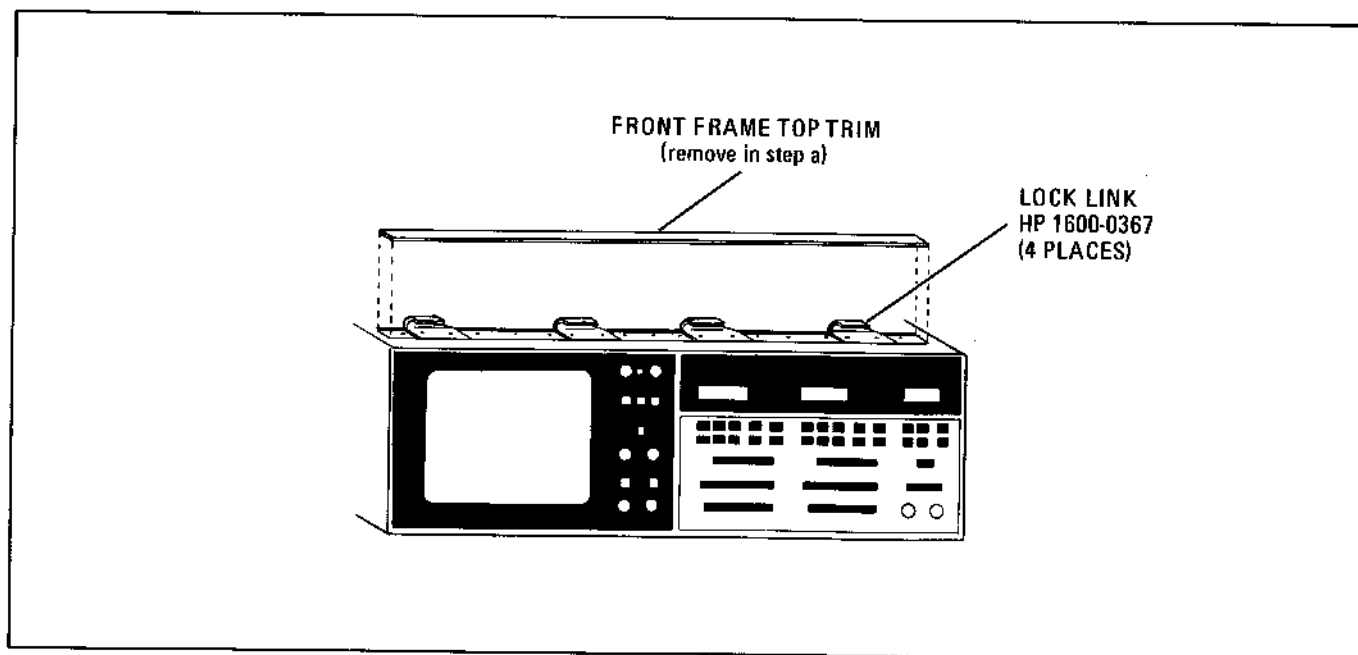

Figure 2-2. Installation of Lock Links on 8505A
- Remove the 8505A front frame top trim strip (see Figure 2-2).
- Fasten the four lock links (Part of HP Part Number 5061-0099) to the 8505A front frame using the eight 6-32 pozidrive screws provided (there are eight threaded holes in the front frame). The hook-shaped protrusions of the lock links must extend toward the rear of the 8505A (see Figure 2-2).